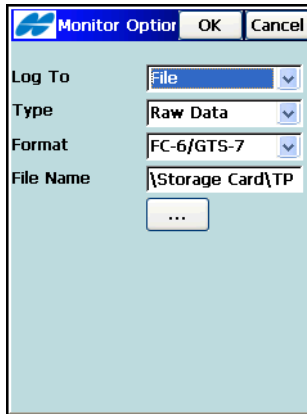

Figure 3-55. Monitor Option – File Selected
- **Monitor**: opens the **Monitor Options** screen (Figure 3-55 on page 3-55) to set a Monitor survey.
Selecting the *Monitor* item opens the *Monitor Options* screen (Figure 3-55) to set the parameters for data output in the Monitor survey. Available options vary, depending on whether a File or a COM port is selected for data output.